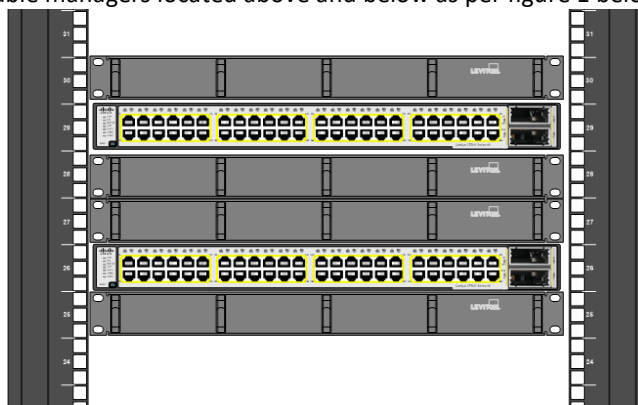

Figure 1: Cable organiser rack layout
- Each switch requires two cable managers located above and below as per figure 1 below: